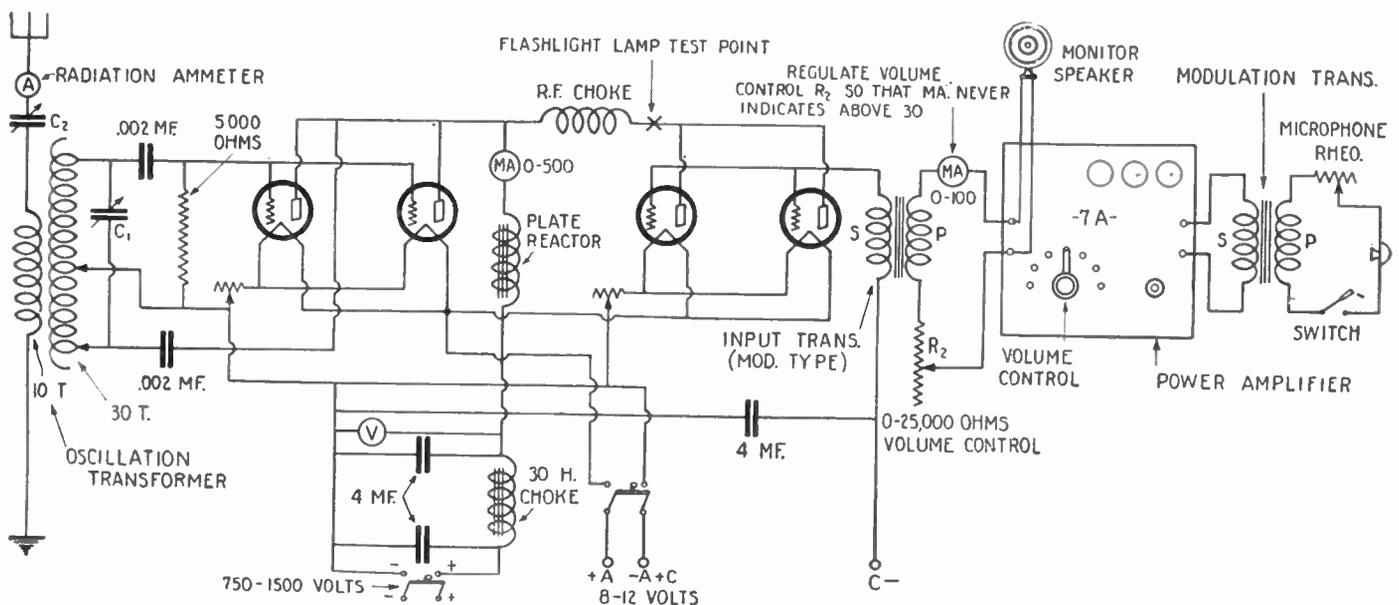

Fig. 135. The wiring diagram of a 100-watt broadcasting station. A reliable range of approximately 100 miles may be expected with this transmitter.
A. 1. It is an exceedingly difficult proposition to construct an efficient broadcast station. Nevertheless, as we have received numerous calls for similar information, we here describe a complete transmitter incorporating a speech-amplifier system, which may be used for broadcasting purposes. The circuit diagram is shown in Fig. 135; the Heising system of modulation is employed. Either 5- or 50-watt tubes may be employed, the plate voltage being the only variable feature, should it be desirable to switch from one to the other. The transmitter, of course, must be ruggedly constructed and well insulated to withstand high voltages.